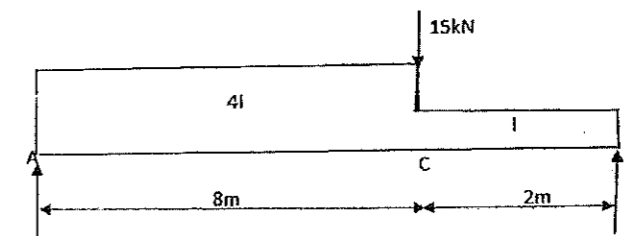

Figure 14(b)
- (b) Determine the following by using conjugate beam method. Take $I = 8 \times 10^{-5} \text{ m}^4$, $E = 200 \times 10^6 \text{ kN/m}^2$. Find the following (Figure 14. (b)).
- (i) Slope at end A (4)
- (ii) Deflection at C (5)
- (iii) Maximum Deflection (4)